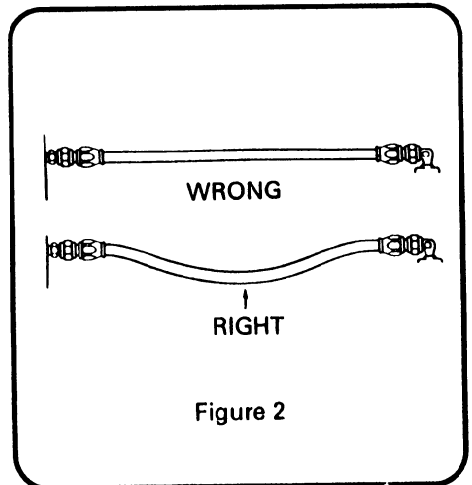

Figure 2
- c. Remember that the hose will change in length (up to 4% shorter or 2% longer) when pressurized to the maximum operating pressure. Provide slack or bend in the hose to compensate for any changes which might occur. (See Figure 2.)